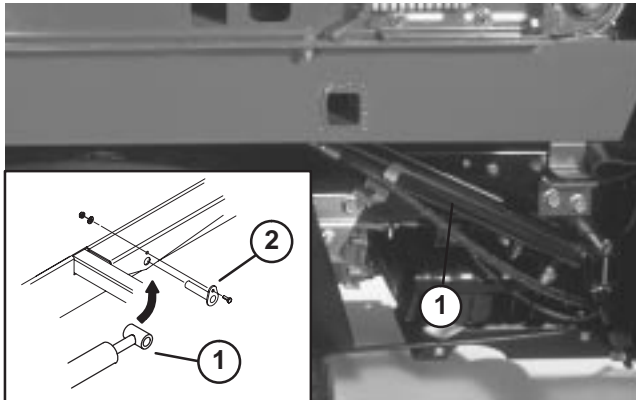

Figure 10
2. Secure each cylinder pin to topdresser base with a 1/4-20 x 3/4" lg. capscrew, flatwasher and nut (Fig. 10).